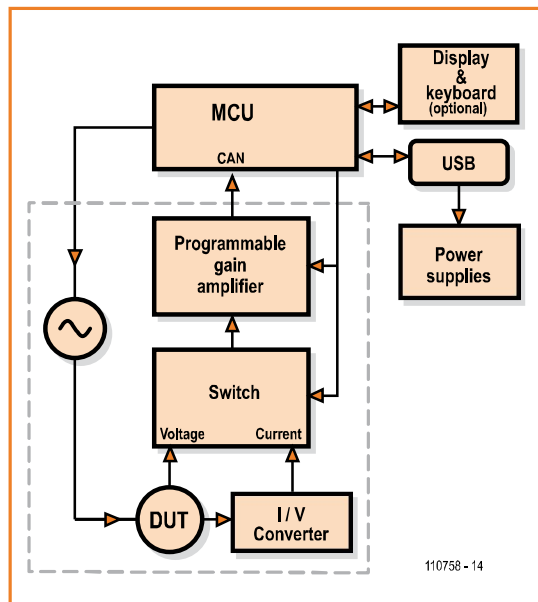
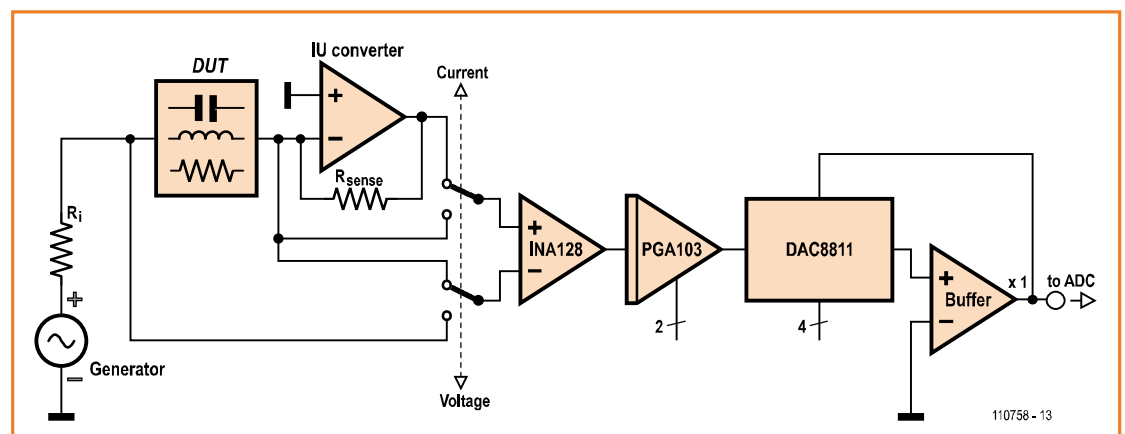

Figure 1. Analogue and digital techniques are closely intertwined within the sub-assemblies of the 500 ppm LCR Meter.
Figure 2. An enlargement of the section within the dotted line in Figure 1: this is the measuring head, which most of this article is about.
- Before we take a detailed look at the complete circuit of the unit, I propose first taking a quick look at the block diagram, which gives a good idea of the whole project (**Figure 1**). It would be tempting to immediately examine each element in detail as we usually do. Sadly, we wouldn’t understand a great deal of it without first taking a look at the problems posed by these measurements. All in all, they are fairly complex, and the precision requirement we’ve set for ourselves places the bar pretty high. Rest assured, though, that all I’m using for this is grey matter — there are no other hard-to-find components.
In the “A little bit of theory” box, I provide a few details about the measurement principle. Let’s take a look here at its practical implementation in the measuring head (**Figure 2**), which comprises those elements enclosed by the dotted line in Figure 1. The analogue section of the LCR meter uses the conventional technique of a self-balancing bridge to determine the unknown impedance of the device under test (DUT) by measuring the voltage across its terminals together with the current flowing through it when driven by a variable-frequency sinewave signal.
We can see from Figure 2 that the current flowing through the DUT also flows through the current sensing resistor  $R_{\text{sense}}$  (this simplified diagram doesn’t show that the value of this sensing resistor changes with the impedance range, which we’ll see in the full circuit diagram). The potential at the inverting input of the current/voltage converter (*IU converter*) is maintained at 0 V (virtual ground) so as to maintain the balance between the current through  $R_{\text{sense}}$  and that through the DUT. As the frequency is never more than 10 kHz, a fast opamp is suitable for this converter, which must introduce only a minimum of phase error into the signal path.
The linearity error of a successive approximation ADC (SAR) is at best  $\pm 1-2$  LSBs. Now since the zero-crossing of the sinewave signal to be measured is the region where the digitizing error is greatest, the higher the amplitude of the signal, the more accurate will be the measurement. Most LCR meters, like for example the one described in *Elektor* in 1997 [1], use a programmable gain amplifier (PGA in Figure 1) using a step of  $\times 10$  between values (gain of 1, 10, or 100). It is quite simple to use a high-precision integrated PGA, such as the PGA103 from Texas Instruments.